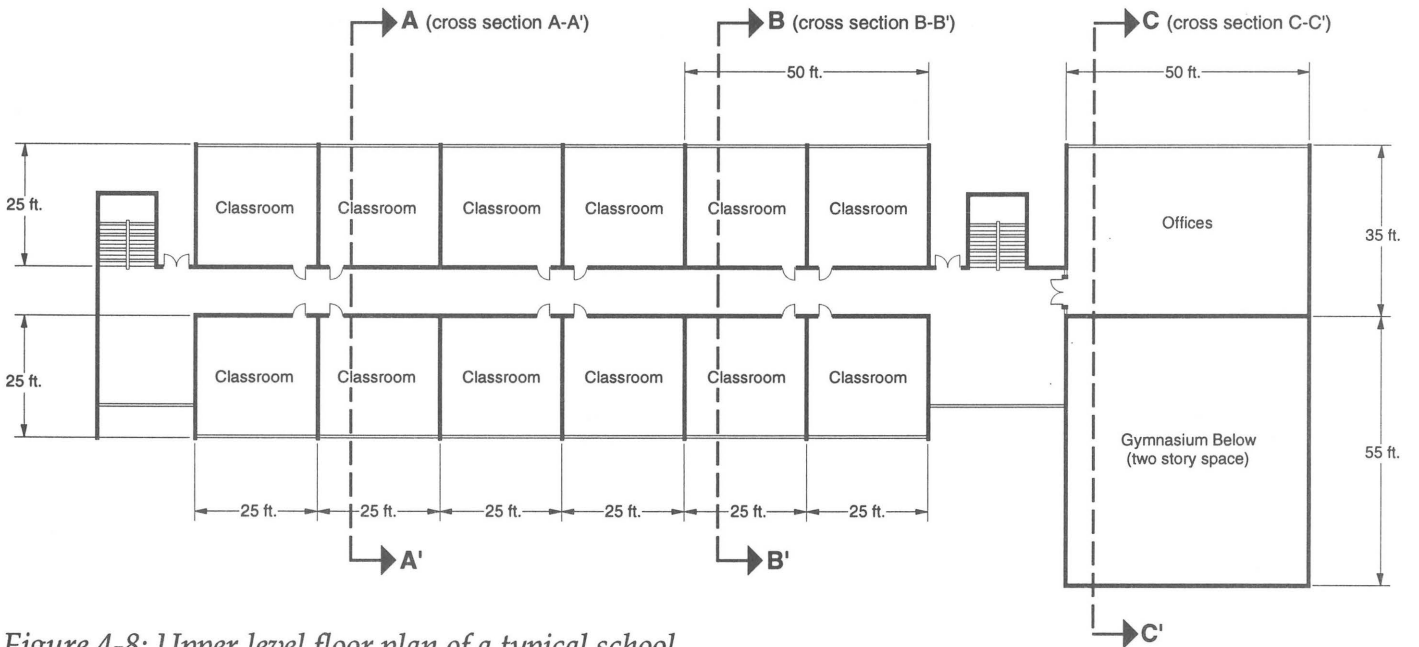

Figure 4-8: Upper level floor plan of a typical school.
*Correct answer for Figure 4-8: Upper level plan of a typical school showing placement of detectors.*